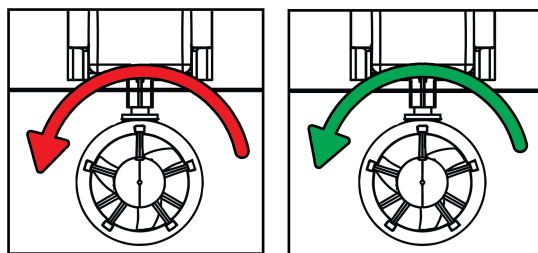

Figure 28: Hydrone™ RCV Servo Prop Rotation
- Motor must rotate counterclockwise(CCW) (Figure 28)